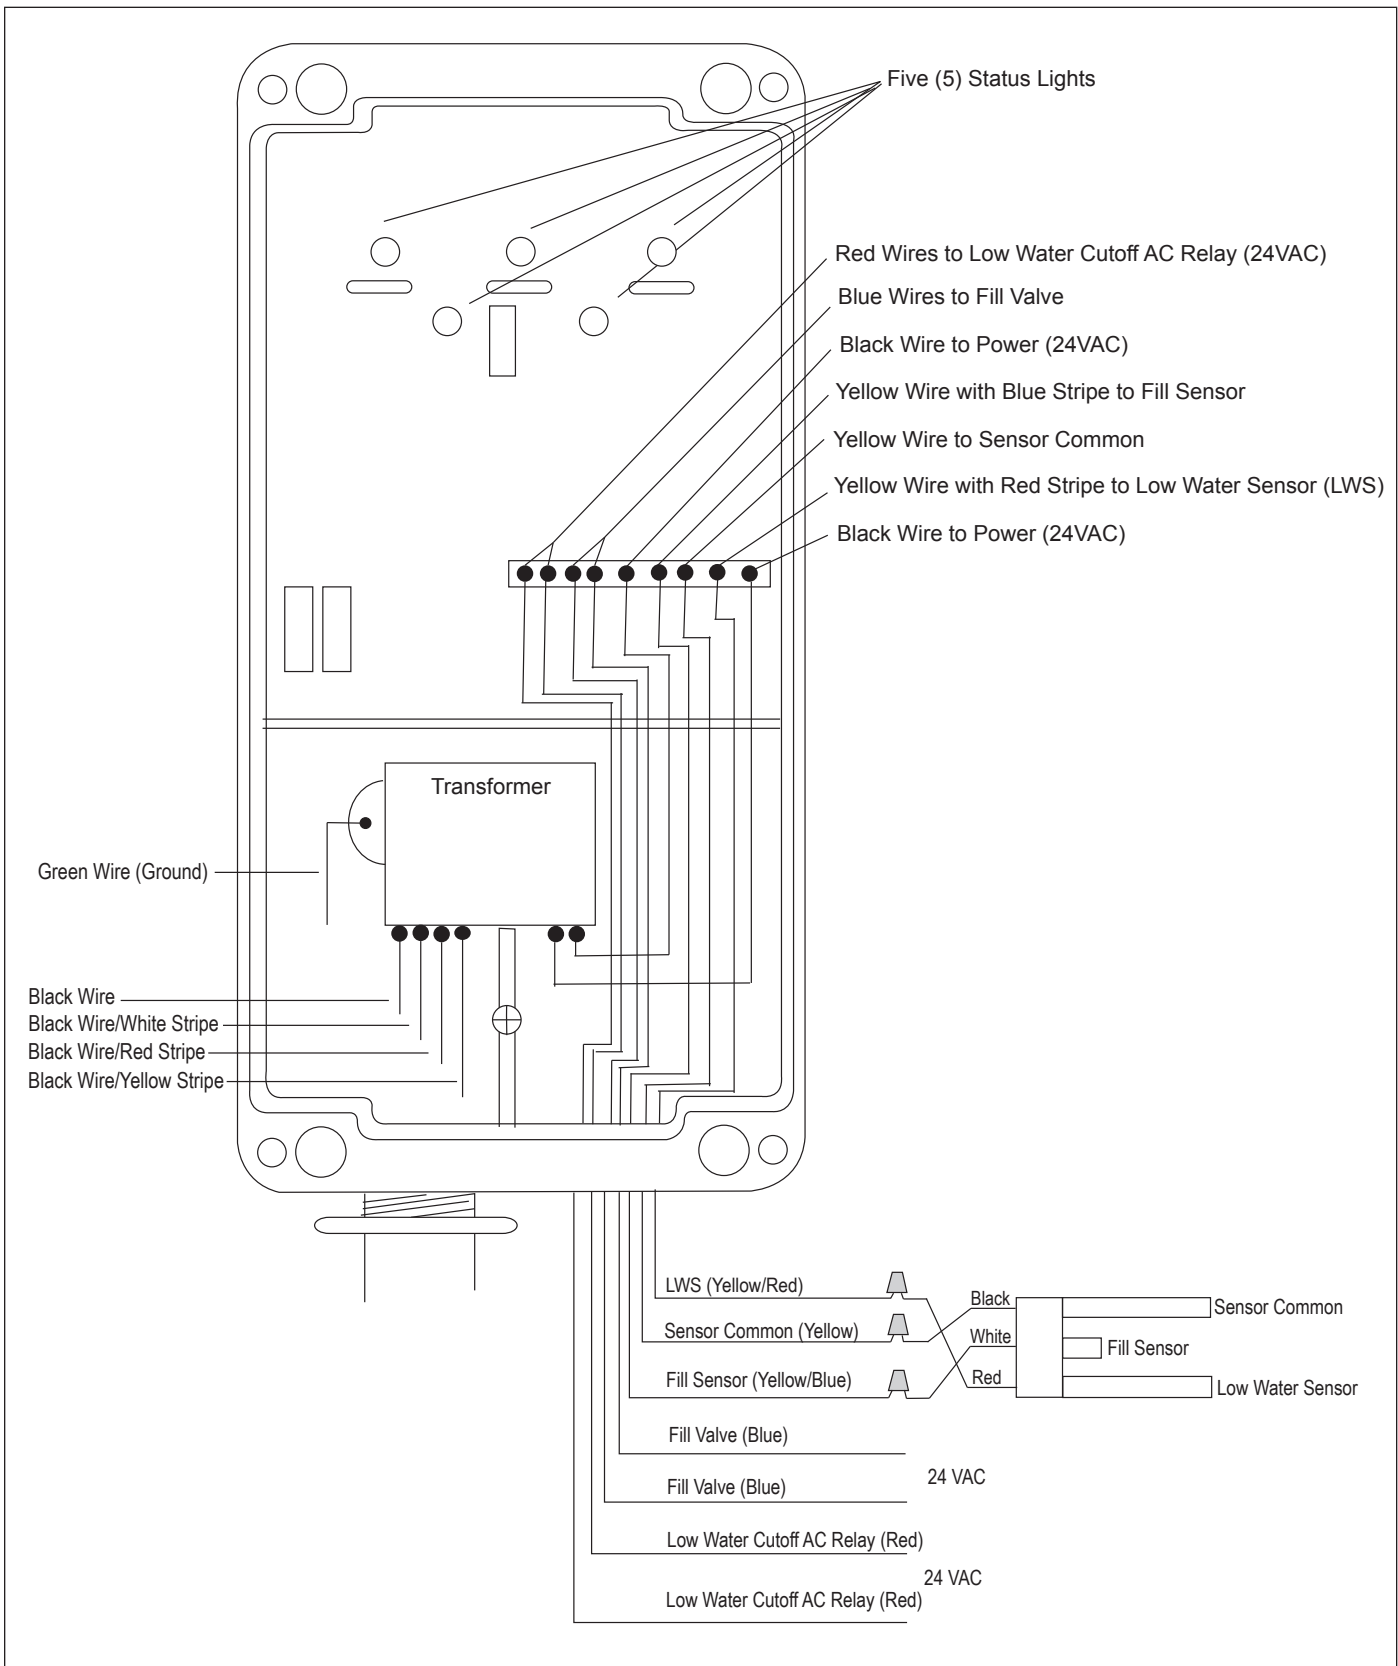

Figure 7. Control Box Wiring
2. Connect the wires from the Fill Valve to the blue wires in the control box using wire nuts. See Figure 7, page 10.
3. Connect the wires from the Low Water Cutoff AC Relay Coil to the red wires in the control box using wire nuts. See Figure 7, page 10.
2. Connect the sensor wires as follows. Refer to Figure 7 and Table 1, shown below.
2. Disconnect the sensor from the three (3) sensor wires. Refer to Figure 7, Control Box Wiring, page 10, and Table 1, Sensor Wire Connections, page 11.
3. Disconnect the valve and the relay from the control box. Refer to Figure 7, Control Box Wiring, page 10, and Table 4, Valve and Relay Connections, shown below.
- a. Disconnect the fill valve from the two (2) blue wires in the control box.